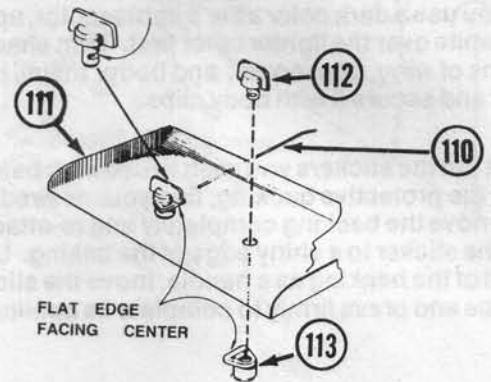

FIG. 52
14. Insert the male top wing button (112) through the top of the wing (111) and snap into the female bottom wing button (113) so that the flat, wire holding edges, are pointing inward toward each other. The male top wing button (112) is turned so that the large notch is also pointing inward as shown in Fig. 52.